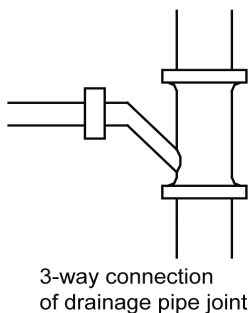

Fig.4.3.3
- 1) Three-way connection of drainage pipe joints (Fig.4.3.3).